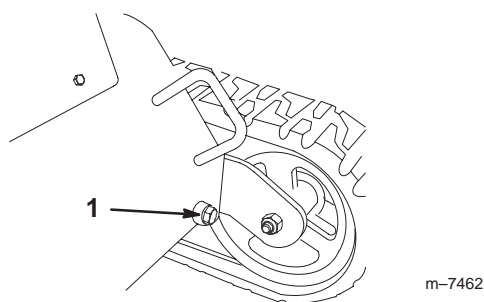

Figure 64
6. Place a large drain pan (capable of holding 15 US gallons) under the drain plug on the front of the traction unit (Fig. 64).
7. Remove the drain plug and allow the oil to drain into the pan (Fig. 64).